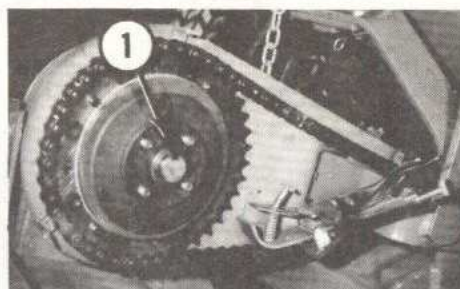
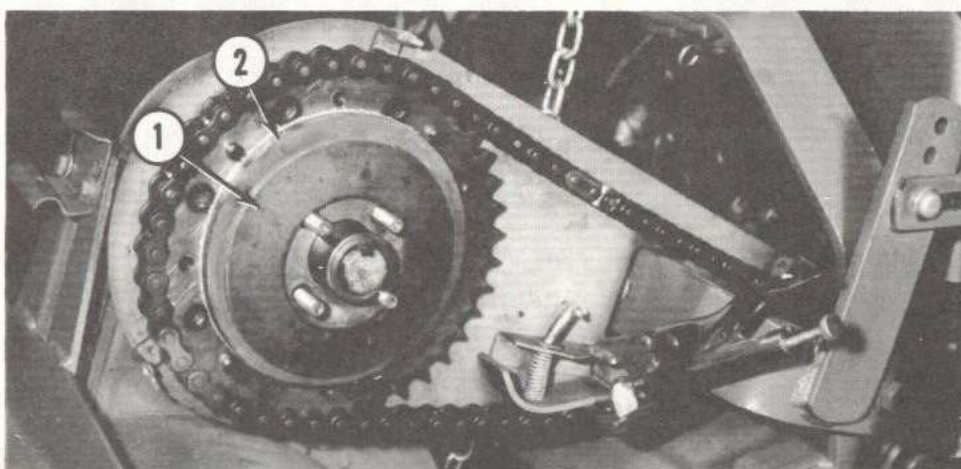

FIG. 37
FIG. 38
- c. Remove spring deflector (1), Fig. 37.
- d. Remove spring washer (1), Fig. 38.
6. When installing the spring washer (1), Fig. 38, center spring washer on pressure plate (2), Fig. 38, before tightening spring deflector (1), Fig. 37.